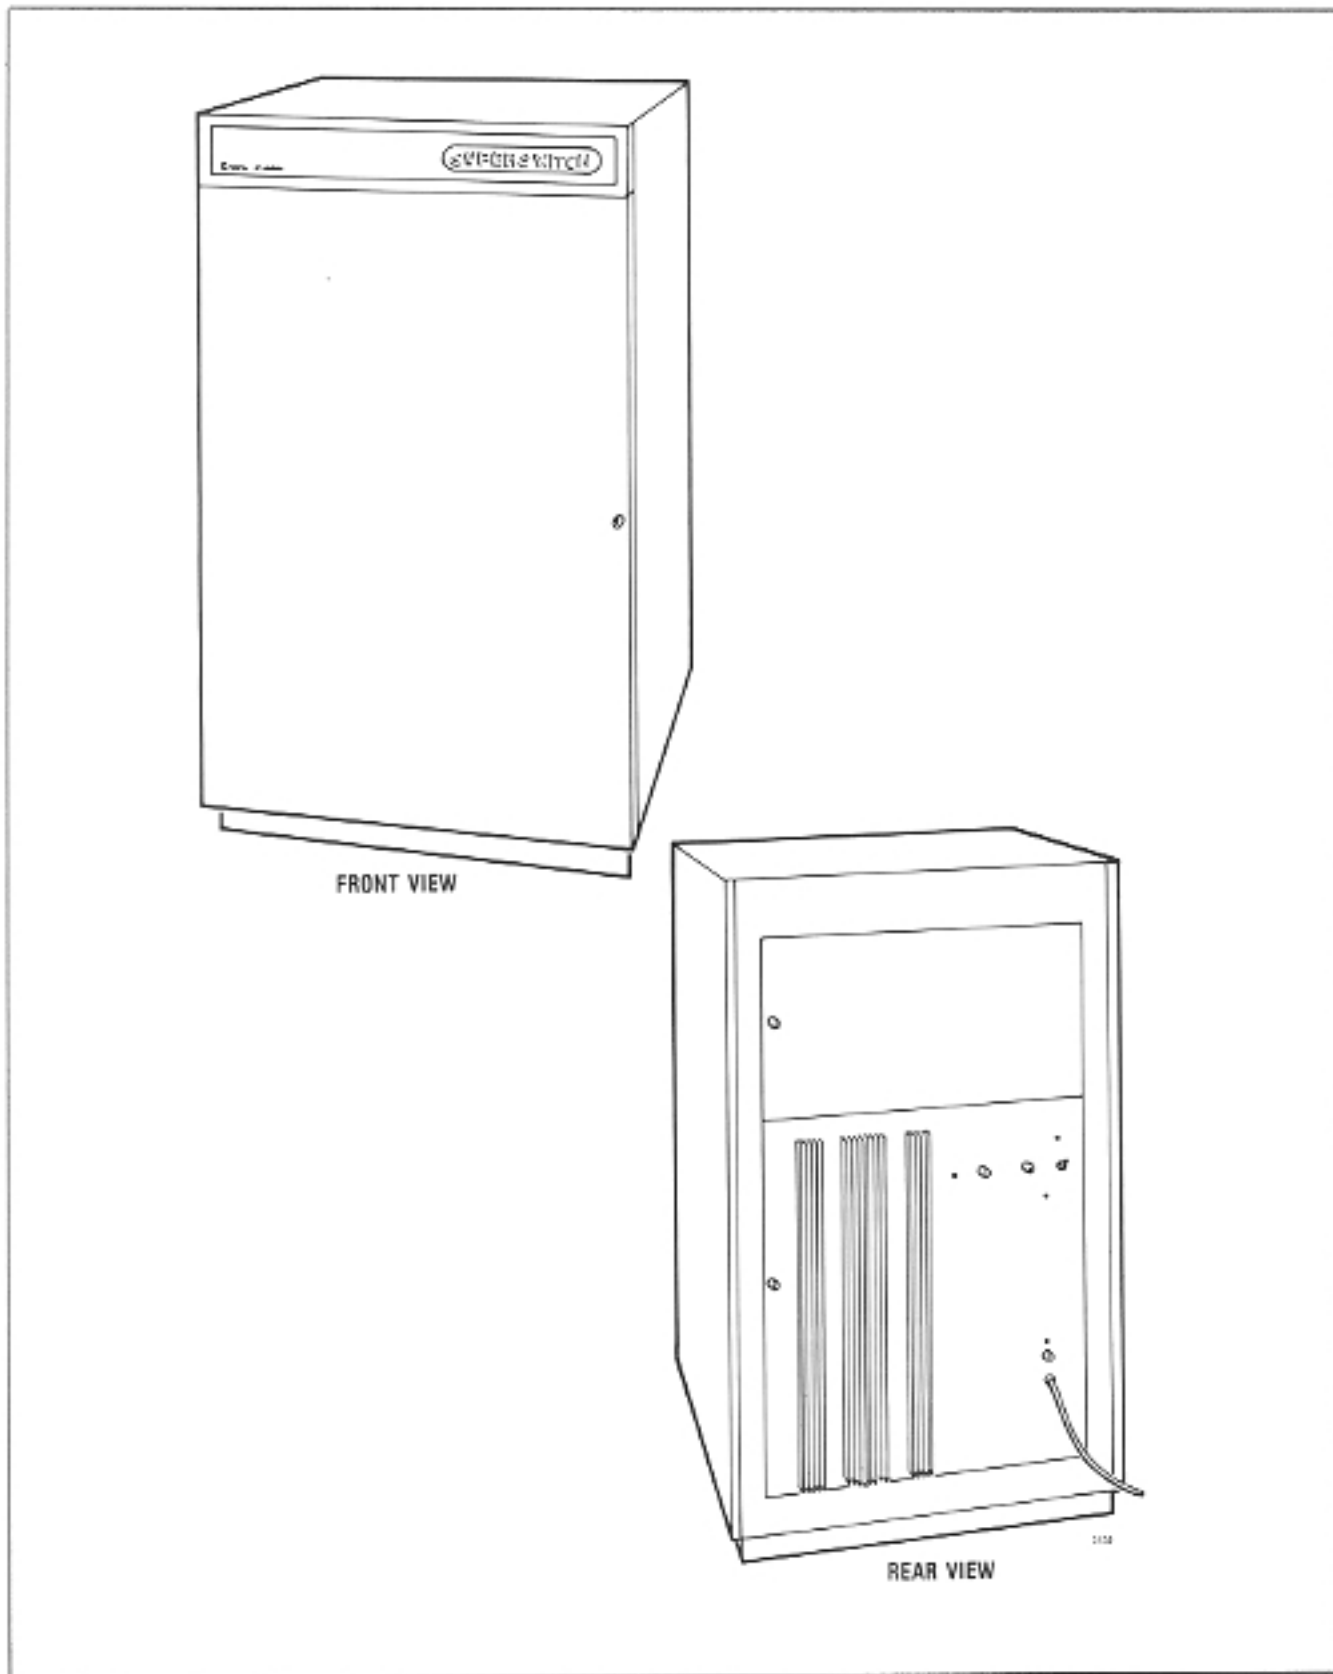

Fig. 2-2 Equipment Cabinet
**2.06** The SX-200 equipment cabinet (See Fig 2-2) is of metal construction and has the following dimensions: Height 38 in. (960mm), width 23.5 in. (600mm) and depth 27.5 (700mm). The weight of a fully equipped PABX is approximately 290lbs. (131.7kg).